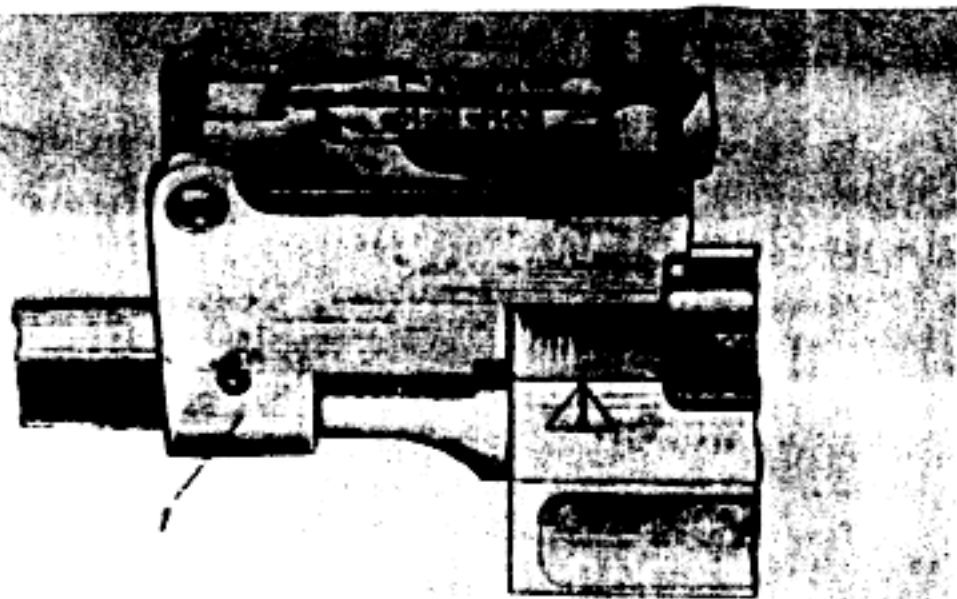

Figure 18. Rear sight, assembled and disassembled.
The rear sight (fig. 18) consists of a base (1), on which there are sectors; sight leaf (2), sight leaf spring (3), slide (4); slide catch (5) and spring (6).
The sight leaf (fig. 18) has odd numbers inscribed on the right side, which correspond to ranges of 100 to 700 meters, and on the left side there are inscribed numbers 2 to 8, which correspond to ranges of 200 to 800 meters. On the left side of the sight leaf is the letter "P".* This graduation is the constant (battle) setting of the sight; with this setting, the slide is located as far to the rear as possible.